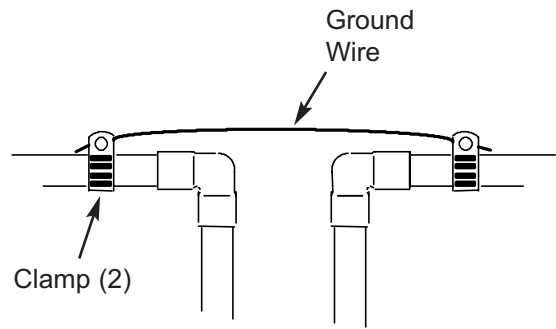

FIG. 15
1. Install a #4 copper wire across the removed section of main water pipe, securely clamping it at both ends (See Figure 15) - parts not included.